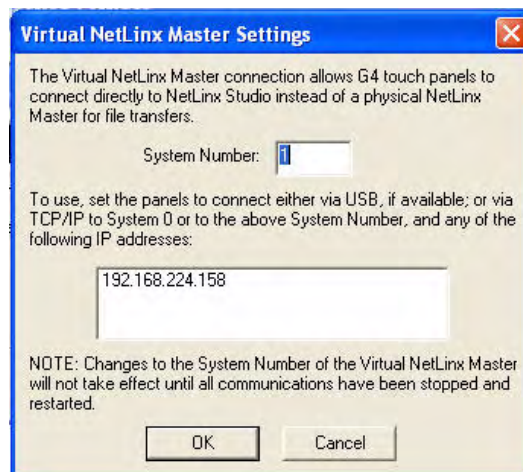

FIG. 39 Virtual NetLinx Master Settings dialog box
- Click the **Edit Settings** button to open the *Virtual NetLinx Master Settings* dialog (FIG. 39).